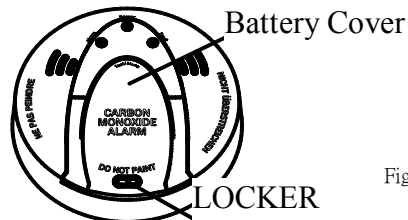

Figure 3.
- 1.Gently press the transparent locker (see figure 3 as below) and flip open the battery cover to expose the battery compartment.